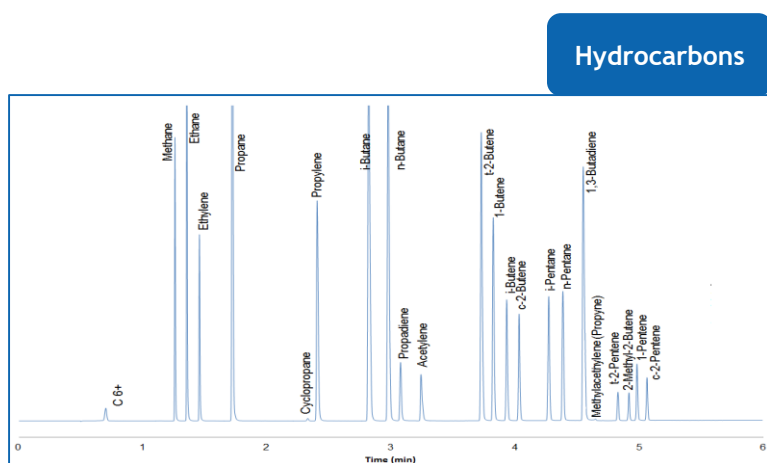

Figure 9: Hydrocarbon analysis
3. The third channel separates the Hydrocarbons on the PLOT column using the FID for detection (figure 9).